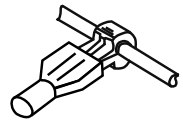

Figure 7
3. Slide wire W-5 End 1 (blue terminal) onto the wire tap and secure any loose wire with a wire tie. (Fig. 7)